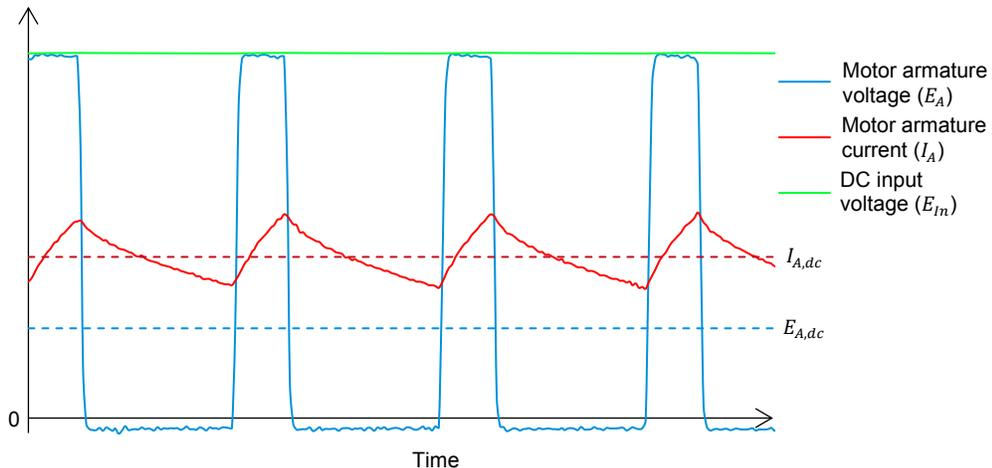
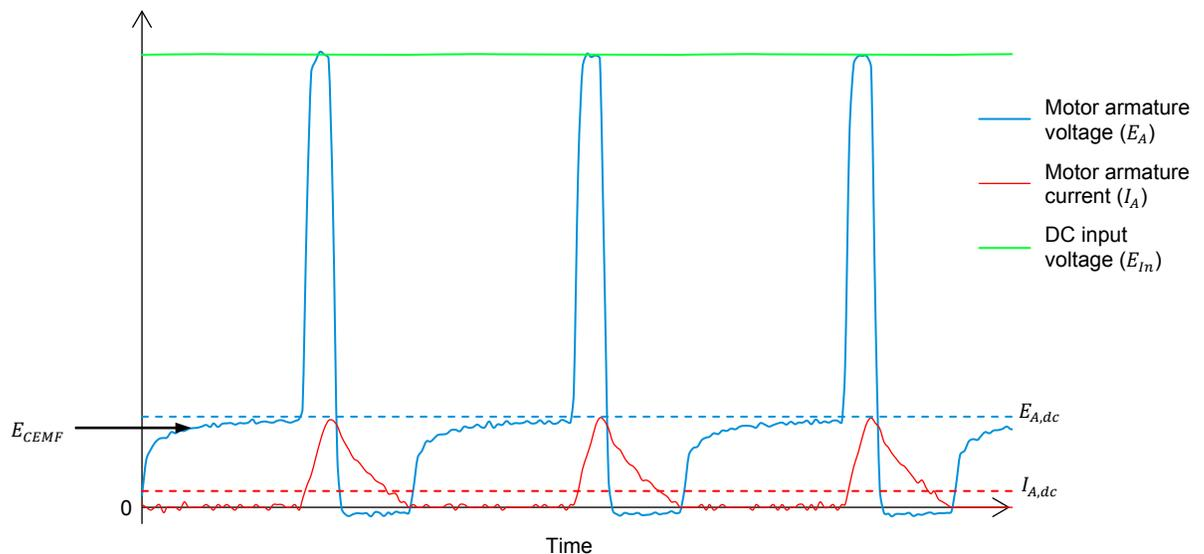

Figure 3. Motor voltage and current waveforms ( $\alpha = 25\%$ ).
Figure 5. Voltage and current waveforms during deceleration ( $\alpha$  is decreased to 10%).
Figure 3 shows the motor voltage and current waveforms produced when the basic PWM dc motor drive operates at a given duty cycle. In this example, the duty cycle  $\alpha$  is fixed to 25%. This means that the dc input voltage is applied to the dc motor armature 25% of the time. The average motor armature voltage ( $E_{A,dc}$ ) is thus a quarter of the dc input voltage ( $E_{In,dc}$ ).
The armature voltage and current waveforms shown in Figure 3 are those obtained once the motor has reached its final speed for a given duty cycle. Notice how the current increases when the voltage is on (at high level) and how it decreases when the voltage is turned off (at low level). This implies that a positive current smoothed by the motor inductance ( $L_A$ ) circulates through the motor.
Note, however, that the relation of Equation (1) does not always apply. Figure 5 shows that the motor armature voltage and current waveforms during deceleration differ from those obtained during steady-state operation (see Figure 3). When switch  $Q_1$  opens, the motor armature voltage drops to virtually zero and the motor armature current decreases as the energy stored in the armature inductance ( $L_A$ ) is released through diode  $D_4$ . When the current reaches zero, diode  $D_4$  becomes blocked. At this moment, the motor armature voltage becomes equal to  $E_{CEMF}$  which is not null since the motor is still rotating due to inertia. This supplementary voltage ( $E_{CEMF}$ ) increases the average motor armature voltage  $E_{A,dc}$  to a value higher than that predicted by Equation (1). The motor eventually slows down to a speed corresponding to the average motor armature voltage  $E_{A,dc}$  applied by the buck chopper. As the motor slows down, the plateau caused in the armature voltage waveform by the  $E_{CEMF}$  voltage decreases and eventually disappears. The duration of this process depends on the inertia of the system.